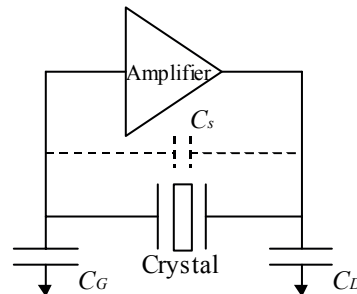

Figure 2: Simple Pierce oscillator
Consider the simple Pierce oscillator consisting of a crystal, an amplifier, and gate and drain capacitors as shown in Figure 2.
3. A stray capacitance C_s shunting the crystal as shown in Figure 2.